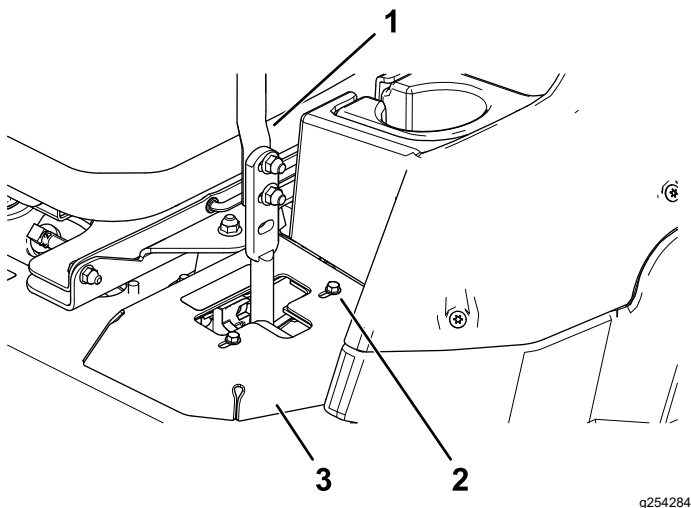

Figure 51
- If the machine tracks to the right, loosen the bolts and adjust the left stop plate rearward on the left T-slot until the machine tracks straight (Figure 51).
- If the machine tracks to the left, loosen the bolts and adjust the right stop plate rearward on the right T-slot until the machine tracks straight (Figure 51).
8. Tighten the stop plate (Figure 51).